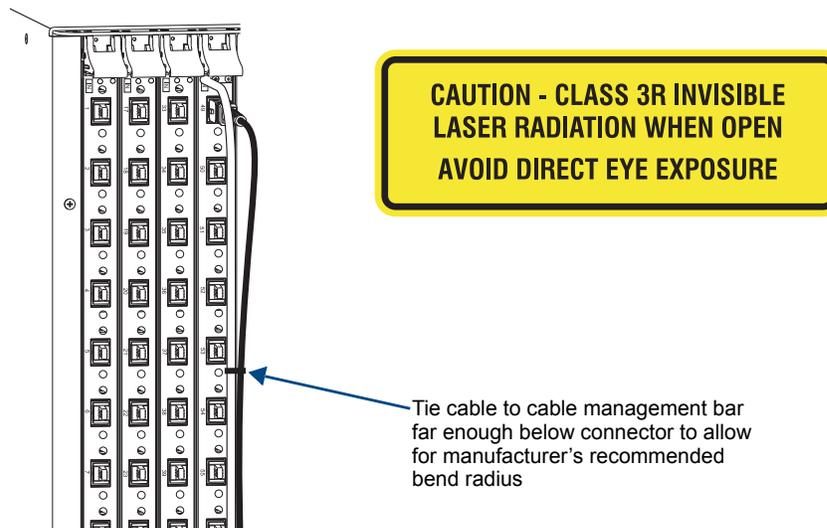

FIG. 25 Fasten cables onto input and output connectors (shown with cable management bar)
4. Insert the fiber cable connector into the input and output SC fiber receptacles (FIG. 25).